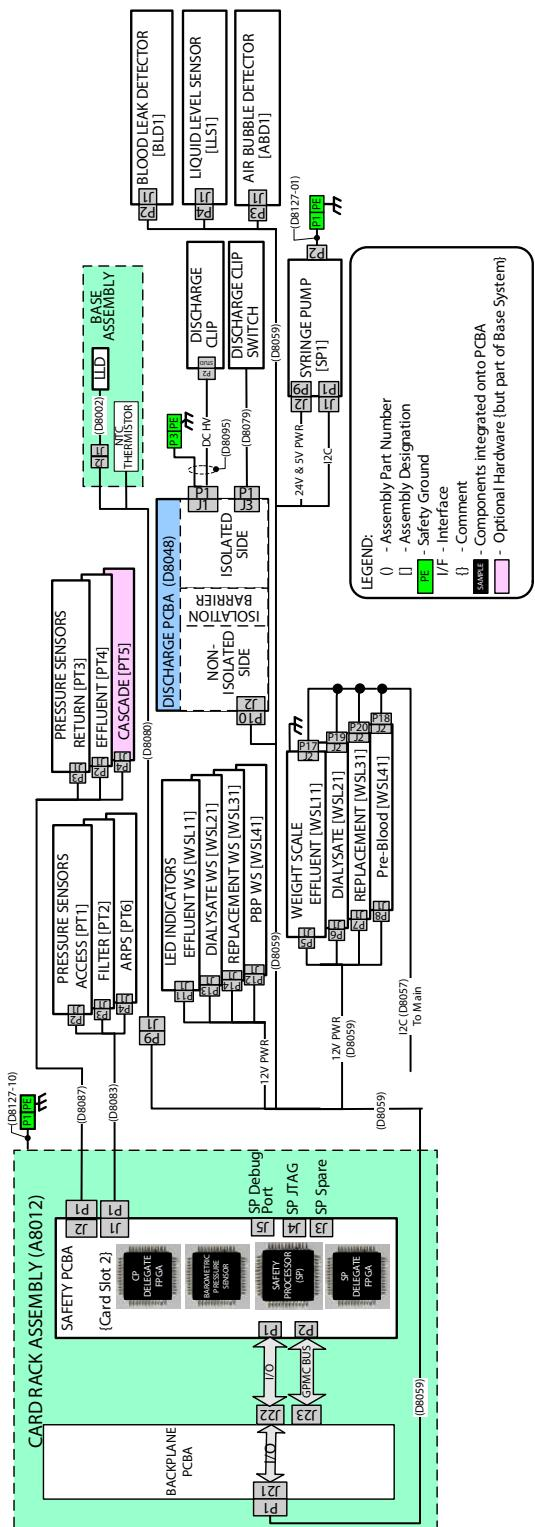

Figure 2-23 Safety Board Interface diagram
The safety board (Figure 2-23) monitors the system and ensures safe operation. The safety board hosts the syringe pump (SP) and interfaces to the following sensor/actuators:
• LED Indicators for weight scales (4)	• Pressure Sensor, Filter